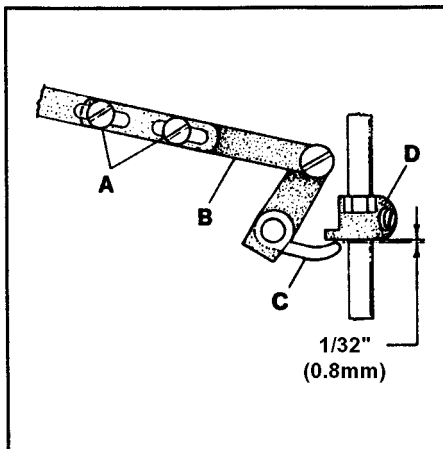

FIG. 22
Replace the presser spring and the presser bar regulating screw. Loosen screws (A, Fig. 22) in lifter lever link assembly (B) and position lever (C) so there is 1/32" (0.8mm) clearance between it and presser bar guide (D) when the feed dogs are below the throat plate.
NOTE: Make sure the 1/32" (0.8mm) clearance between the presser bar lifter lever and presser bar guide has been maintained. Refer to Fig. 22 if readjustment is necessary.